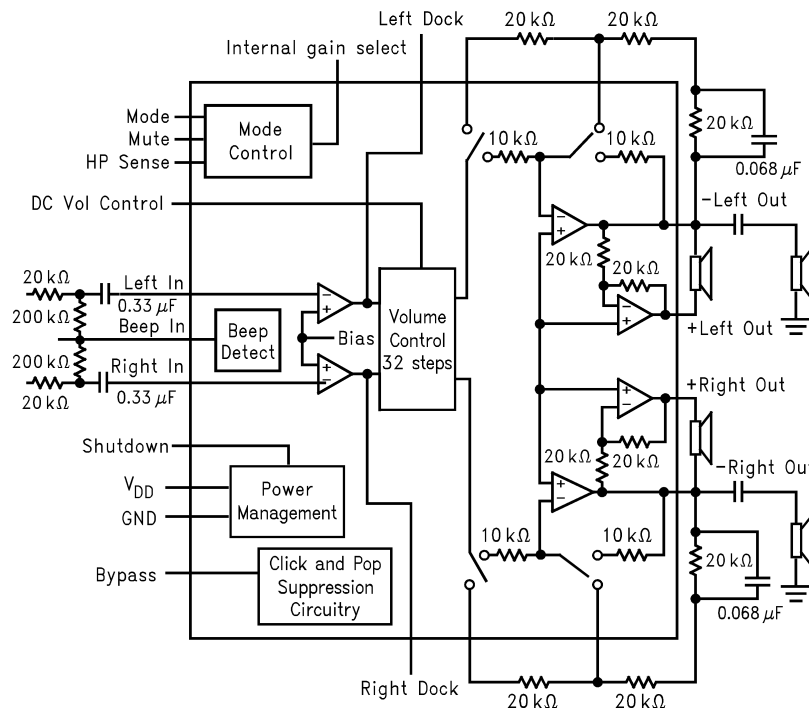

Figure 1. LM4838 Block Diagram
- (1) All voltages are measured with respect to the ground pins, unless otherwise specified. All specifications are tested using the typical application as shown in Figure 1.
- (2) *Absolute Maximum Ratings* indicate limits beyond which damage to the device may occur. *Operating Ratings* indicate conditions for which the device is functional, but do not ensure specific performance limits. *Electrical Characteristics* state DC and AC electrical specifications under particular test conditions which ensure specific performance limits. This assumes that the device is within the *Operating Ratings*. Specifications are not ensured for parameters where no limit is given, however, the typical value is a good indication of device performance.
- (3) Typicals are measured at  $25^\circ C$  and represent the parametric norm.
- (4) Limits are specified to TI's AOQL (Average Outgoing Quality Level). Datasheet min/max specification limits are ensured by design, test, or statistical analysis.